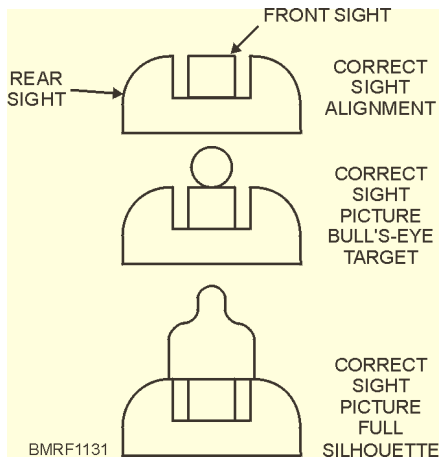

Figure 11-31.—Correct sight alignment and sight picture.
**SIGHT ALIGNMENT.**—Sight alignment is best defined as placing the front and rear sights into correct alignment with the eye. The top of the front sight is level with the top of the rear sight, and the body of the front sight is centered between the rear sight aperture (fig. 11-31). Correct sight alignment is essential for accuracy because of the short sight radius (about 6 1/2 inches). For example, if a 1/10-inch error is made in aligning the
**CORRECT SIGHT PICTURE.**—A sight picture is the pattern of the pistol sights in relation to the target as you aim the pistol. A correct sight picture combines correct sight alignment and correct aiming point (fig. 11-31). When you are aiming, your eye cannot focus simultaneously on three objects (rear sight, front sight, and bull’s-eye) at different ranges. Therefore, the last focus of the eye should always be on the front sight. You will see the front and rear sights sharp and clear, but the bull’s-eye will appear to be a bit hazy.